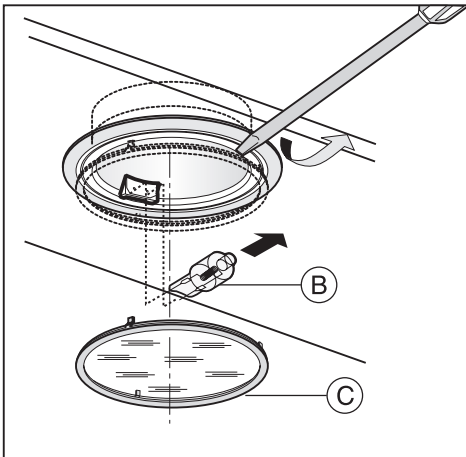

Fig.19
• **Replacing halogen light bulbs (Fig.19):**